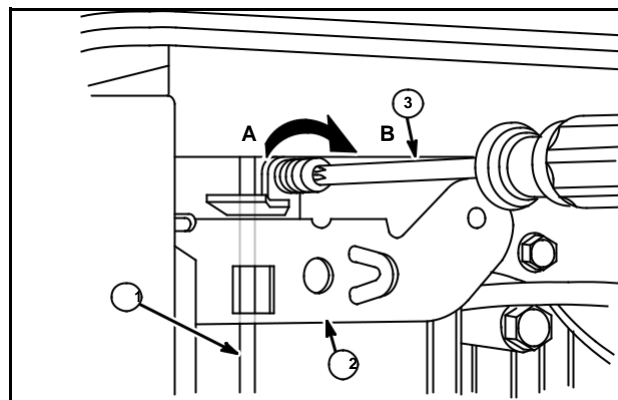

Fig. 56
1. Place throttle in fast position and insert a 1/8" (3.18 mm) rod (1) through holes in carburetor control bracket (2) and lever.
2. Start engine and use #20 Torx driver (3) to adjust Top No Load RPM by turning screw clockwise to decrease (B) or counterclockwise to increase (A), Fig. 56.